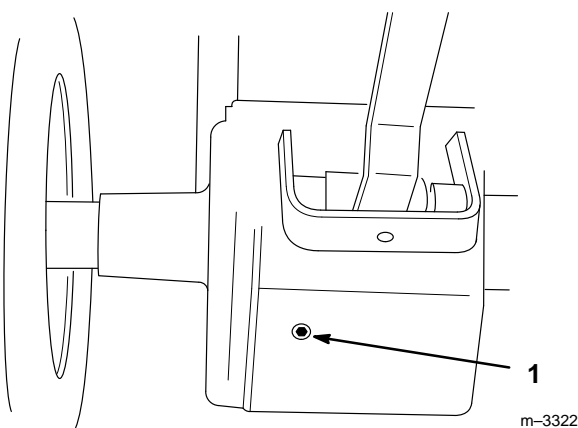

Figure 47
3. Place a pan below the transaxle drain. Open the drain by removing the plug (Fig. 47).